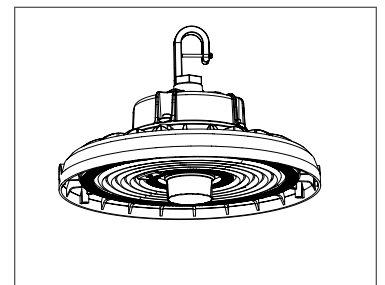

FIGURE 8
- B) Twist sensor into base until secure. (FIGURE 8)